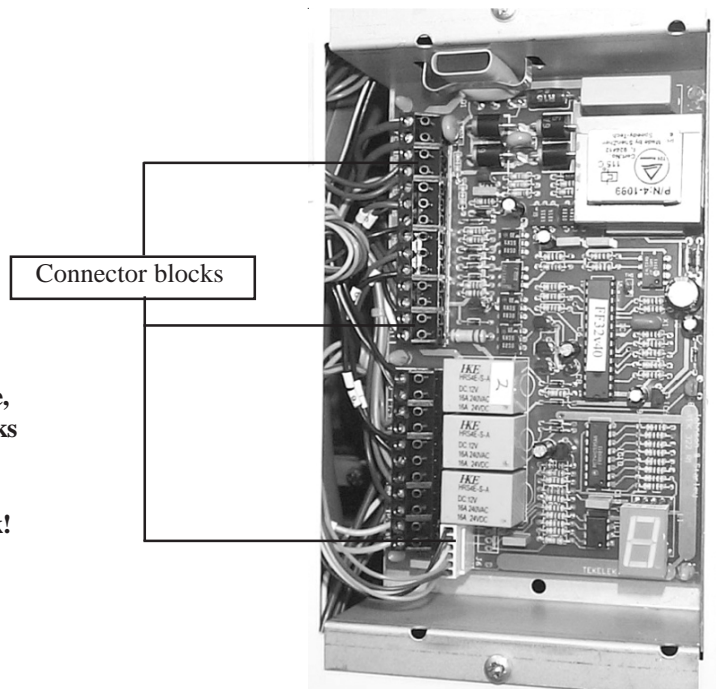

Fig. 11
- 10.7.5 Carefully disconnect the module by lifting the connecting blocks off the circuit board (see fig. 11)